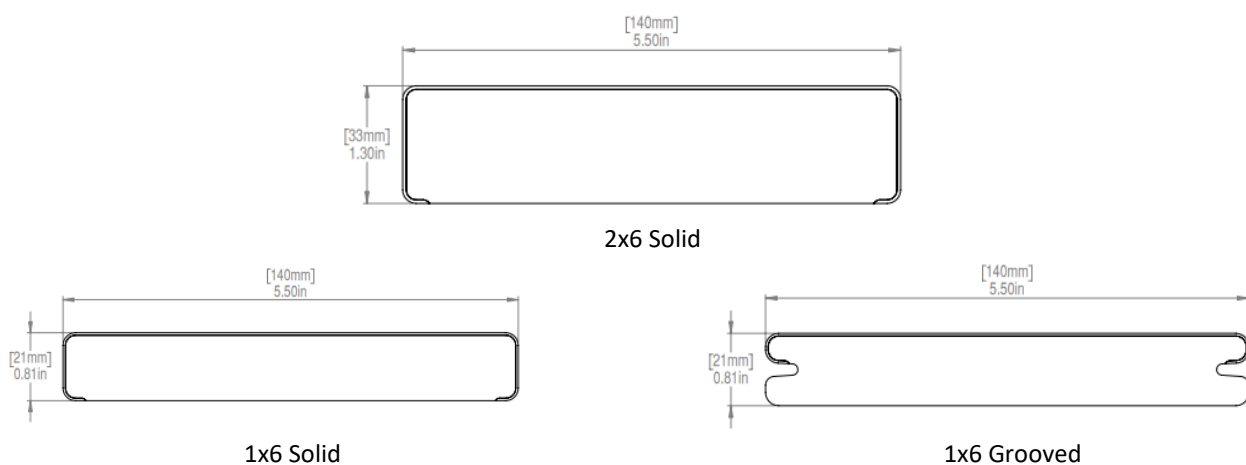

FIGURE 2 – SELECT® 2X6 AND 1X6 DECK BOARD
3.3 TREX Select® are provided in two thicknesses; 1x6 measuring a nominal 5-1/2 inch wide and 7/8 inch thick, and 2x6 measuring a nominal 5-1/2 inch wide and 1-3/8 inch thick. See Figure 2. 1x6 grooved edge deck boards include a 5/16 inch deep by 1/8 inch high groove on each of the long edges.
3.3 Trex® Transcend® railing is produced in Classic White, Charcoal Black, Gravel Path, Rope Swing, Tree House and Vintage Lantern, consisting of the following components (see Figure 2):